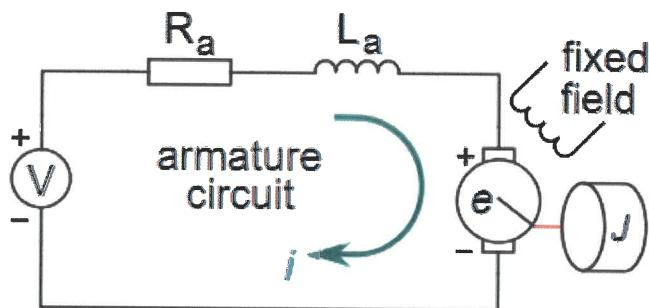

Figure 1
Figure 1 shows the electric circuit of the DC motor's armature. This contains the electrical resistance term (R_a), inductance (L_a), and the back EMF (e). Rotor mechanical terms are the motor torque (T), and rotor inertia (J).